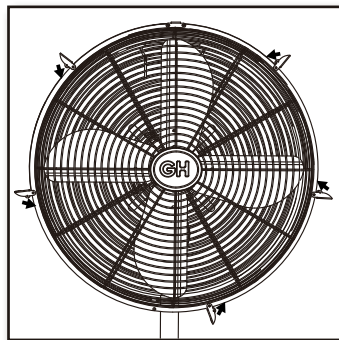

Figure 17
8. Secure the grills completely together by snapping the 5 grill clips into place. Figure 17.